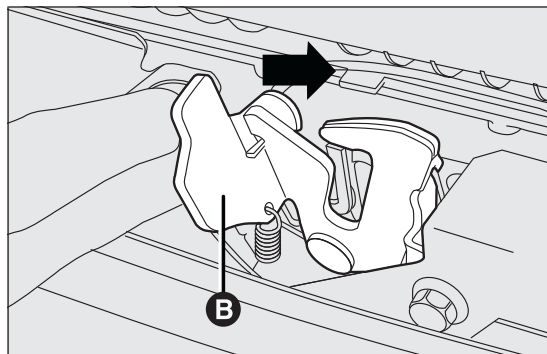

fig. 59
- ☐ move the lever B fig. 59 to the right as shown in the figure;